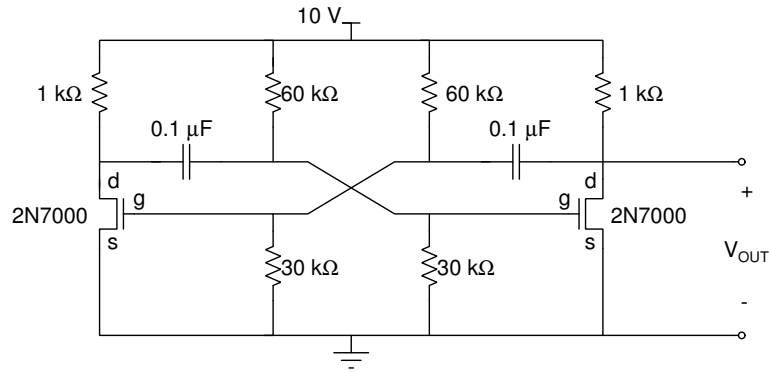
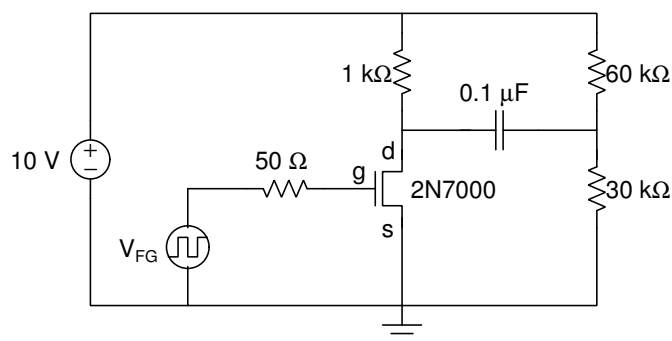

Figure 2: Astable multivibrator circuit of Figure 1 with 2N7000 transistors used as voltage-controlled switches.
Figure 3: Multivibrator half-circuit.
4. Use NGspice to analyze the operation of this circuit. Replace the ideal switches with 2N7000 NMOS transistors as shown in Figure 2. The NMOS transistor acts as a voltage controlled switch. In a NMOS transistor, current only flows between the drain (D) terminal and the source (S) terminal. When the voltage (V_{GS}) between the gate (G) and the source (S) is greater than the threshold voltage (V_t), the D and S terminals are shorted; when V_{GS} < V_t, the D and S terminals are open.
1. Build the multivibrator half-circuit circuit shown in Figure 3.
2. Set the function generator to produce a triangular wave with a voltage from 0 to 5 volts and a frequency equal to that found in step 5 of the Pre Lab. Use the scope to watch the voltage at the gate (G) and the drain (D) of the 2N7000 transistor. At what gate voltage does the transistor turn-on and turn-off?
4. Build the full astable multivibrator circuit shown in Figure 2. This circuit should oscillate when power is supplied.
6. Modify the oscillator to produce the frequency and the duty cycle needed for the boost converter #2 designed in Lab #8. This is best accomplished by keeping the resistor values constant and adjusting the capacitance values C_1 and C_2 shown in Figure 3. The values of the capacitors determine the frequency while the ratio of the capacitors determine the duty